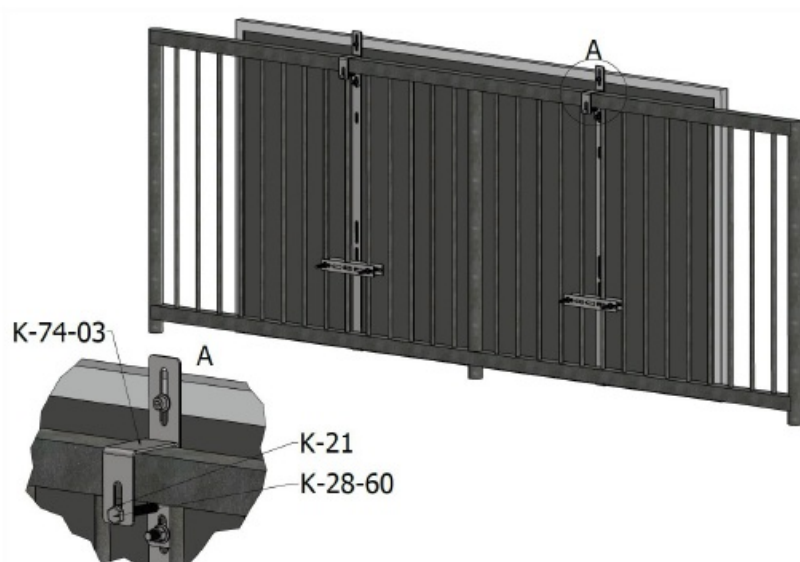

FIG.9 Installation of the safety bolt
8. In the next step, place the K-28-60 hexagonal bolt in the prepared hole in the K-74-03 element and screw on the opposite side with the K-21 nut (FIG.9). The purpose of this bolt is to protect the structure from falling.